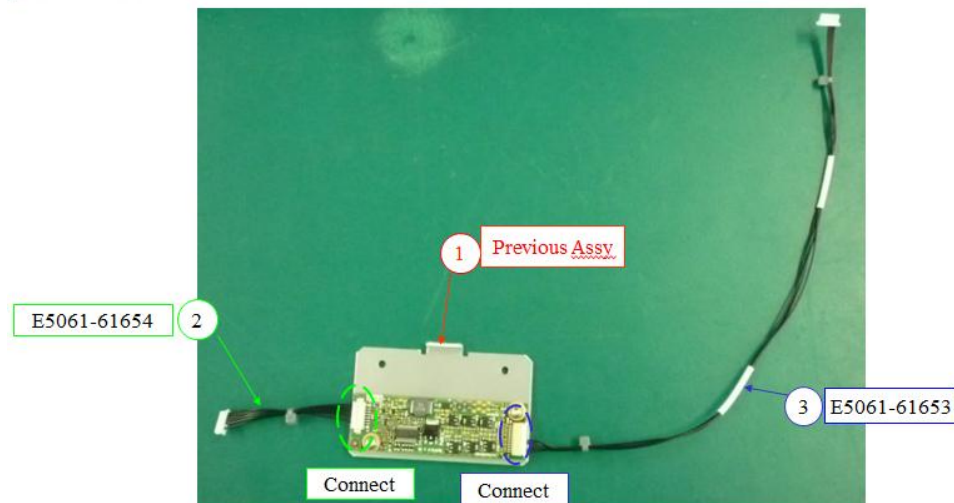

Figure 2-4
3. Install the inverter on the bracket before connect the cable assembly to both ends as shown in figure 2-4